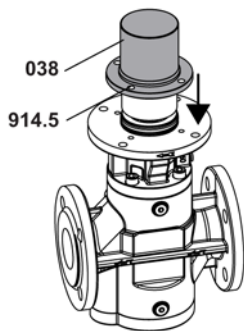

Fig. 11
7. Press the containment can **038** onto the pump flange and tighten the connecting screws **914.5**, see Fig. 11.